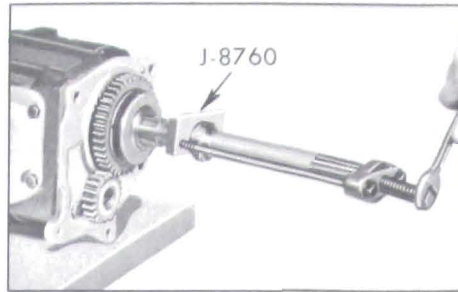

Figure 4-21—Removing Speedometer Gear
8. Remove the speedometer gear with J-8760 as shown in Figure 4-21.